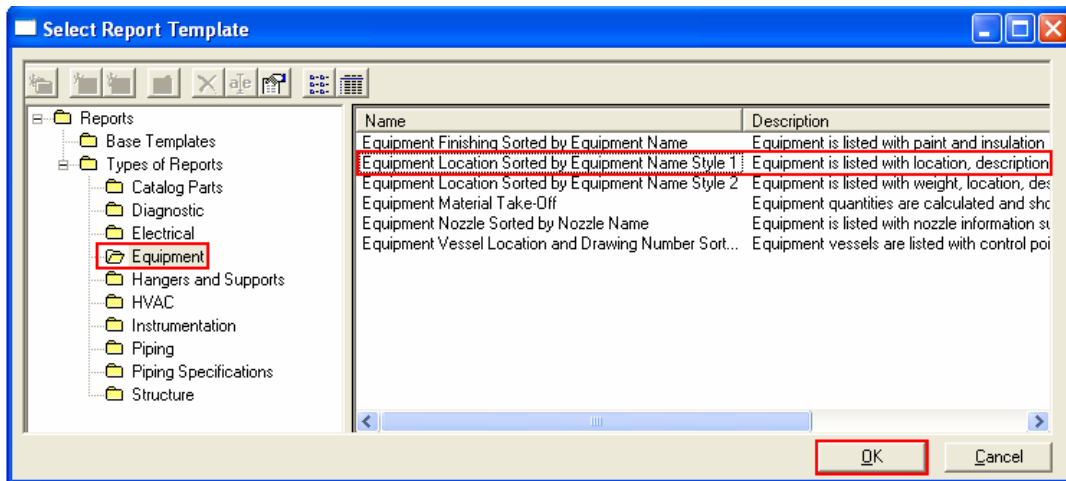

Figure 2: Select Report Template Dialog Box
- In the **Select Report Template** dialog box shown in Figure 2, select the **Equipment** category under the **Types of Reports** folder to select a report template to include equipment in the report.
- The names of the report templates are listed in the right side of the **Select Report Template** dialog box along with their descriptions. Select the **Equipment Location Sorted by Equipment Name Style 1** report template to include the equipment with their location, description, permissions, and approval status and click **OK**, as shown in Figure 2.